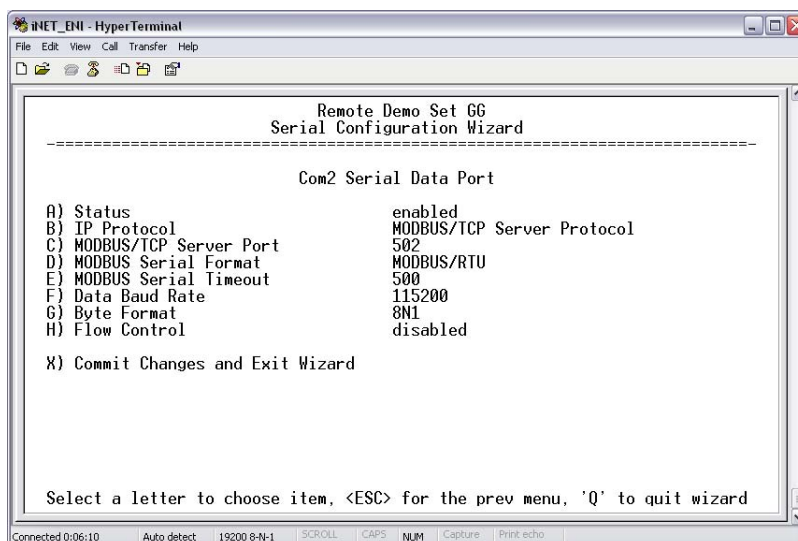

Figure A-18. Save COM2 Configuration Changes
7. Press **X** to save the COM2 port configuration changes. See Figure A-18.